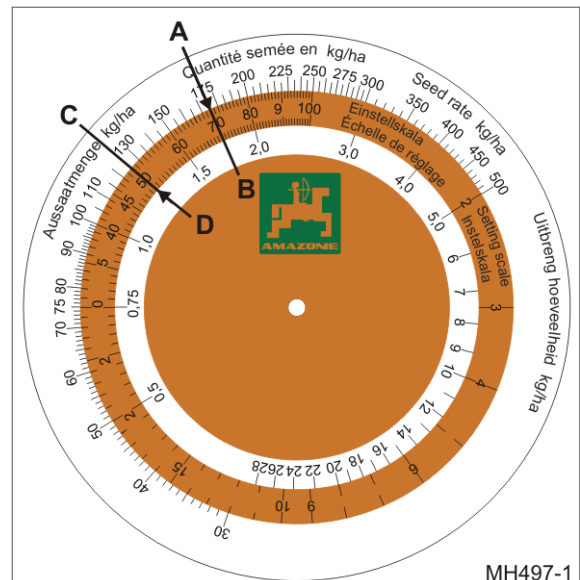

Fig. 160
175 kg/ha (Fig. 160/A)
- o Gearbox setting value 70 (Fig. 160/B).
125 kg/ha (Fig. 160/C)
- o Gearbox setting value 50 (Fig. 160/D).